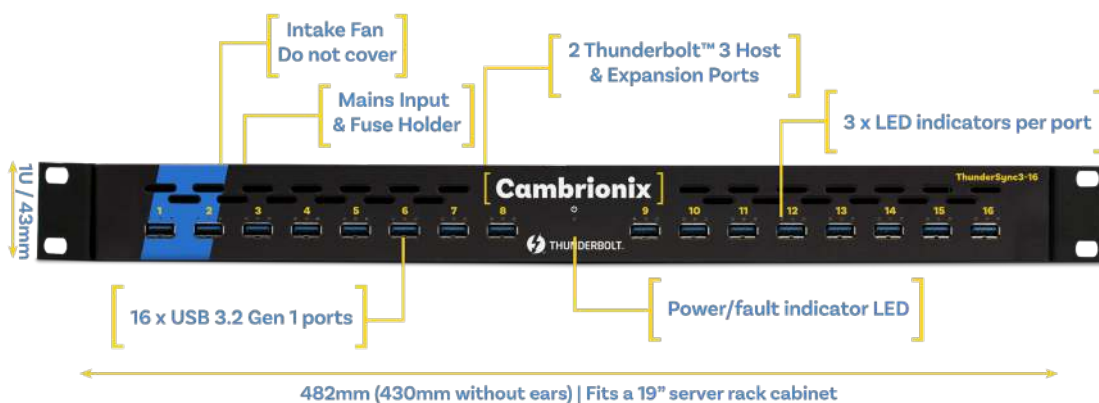

Figure 1
- The TS3-16 unit (see Figure 1 below)